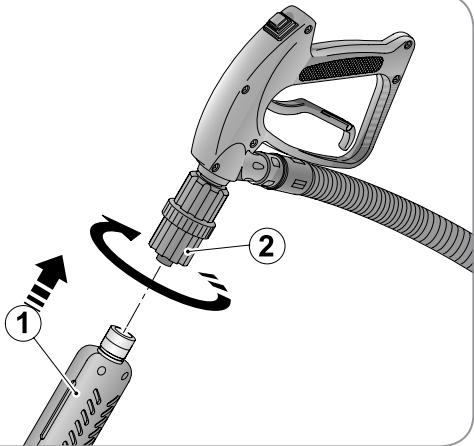

Fig. 15
Screw on the selected accessory (1) to the grip of the hose making the ring nut (2) turn as demonstrated in Fig. 15.